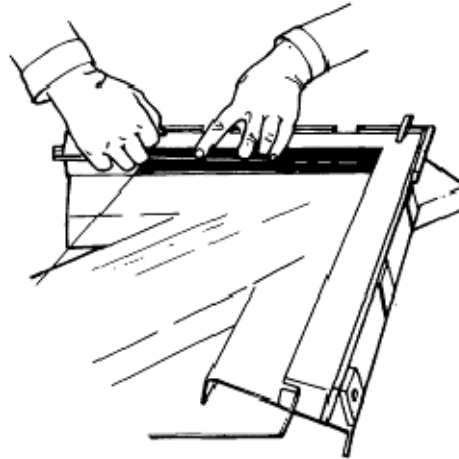

Figure 187 Outer Glass Installation
- j.** Place the sealing rubber along the edge of the glass (Figure 187).